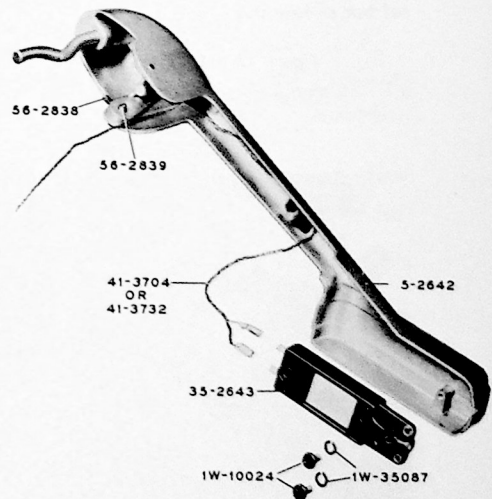

Figure 15. CRYSTAL CARTRIDGE REMOVED
- Remove the two screws and lockwashers which hold crystal to arm. See figure 15.
- Lift out crystal cartridge and remove two jacks from end, as shown in figure 15.